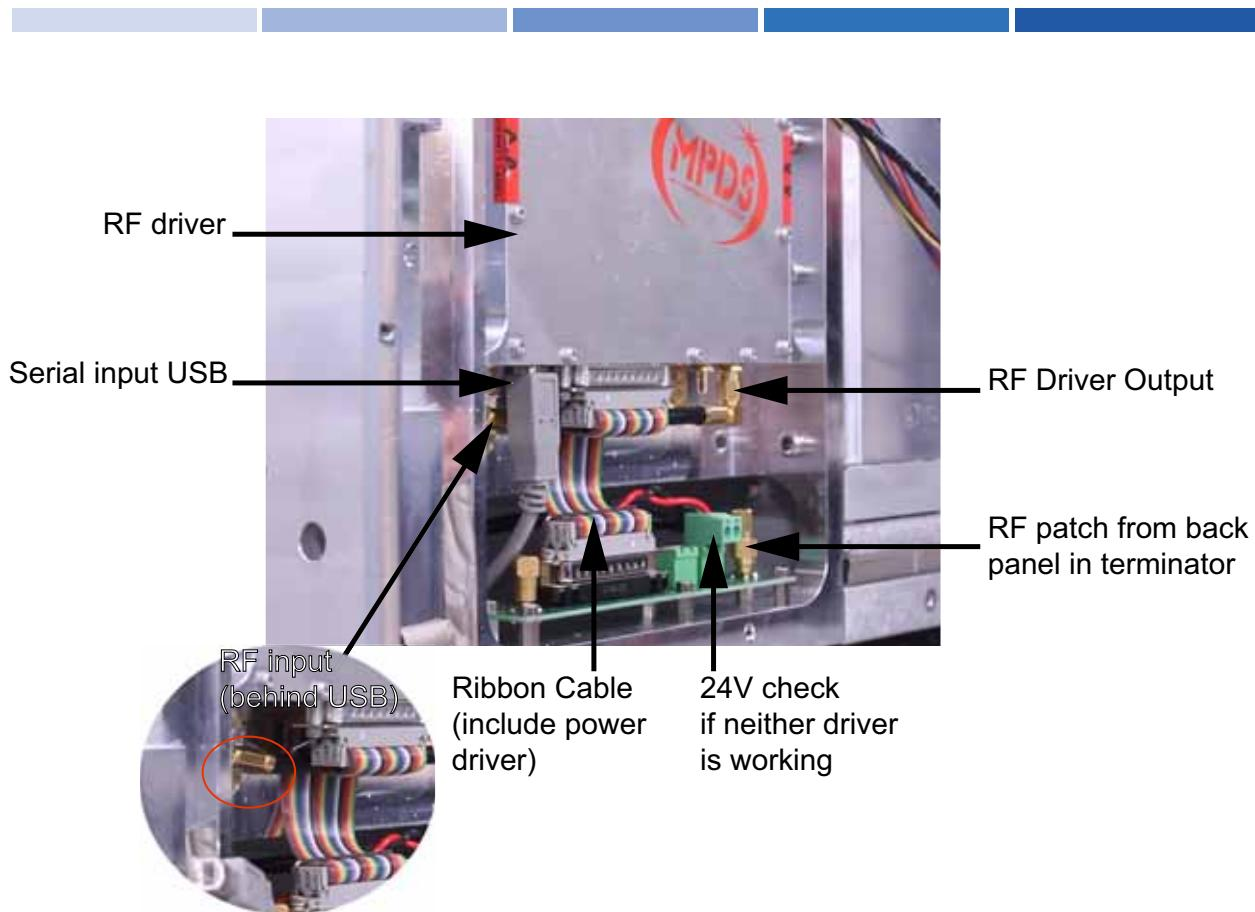

Figure 2.3-2. Driver Components
2. Disconnect the “serial input USB” patch from the driver side indicated in Figure 2.3-2 and connect the PC USB directly to the driver in its place. Power on the PSU.
3. On appropriate driver (tunable or fixed), check that the input bulkhead on the laser head and RF driver output SMA cable are connected securely to RF input. If correction made, power on and re-test (see Figure 2.3-2). If not, continue.
4. Replace the driver (see Figure 2.3-2) or swap the driver from the other beamline.